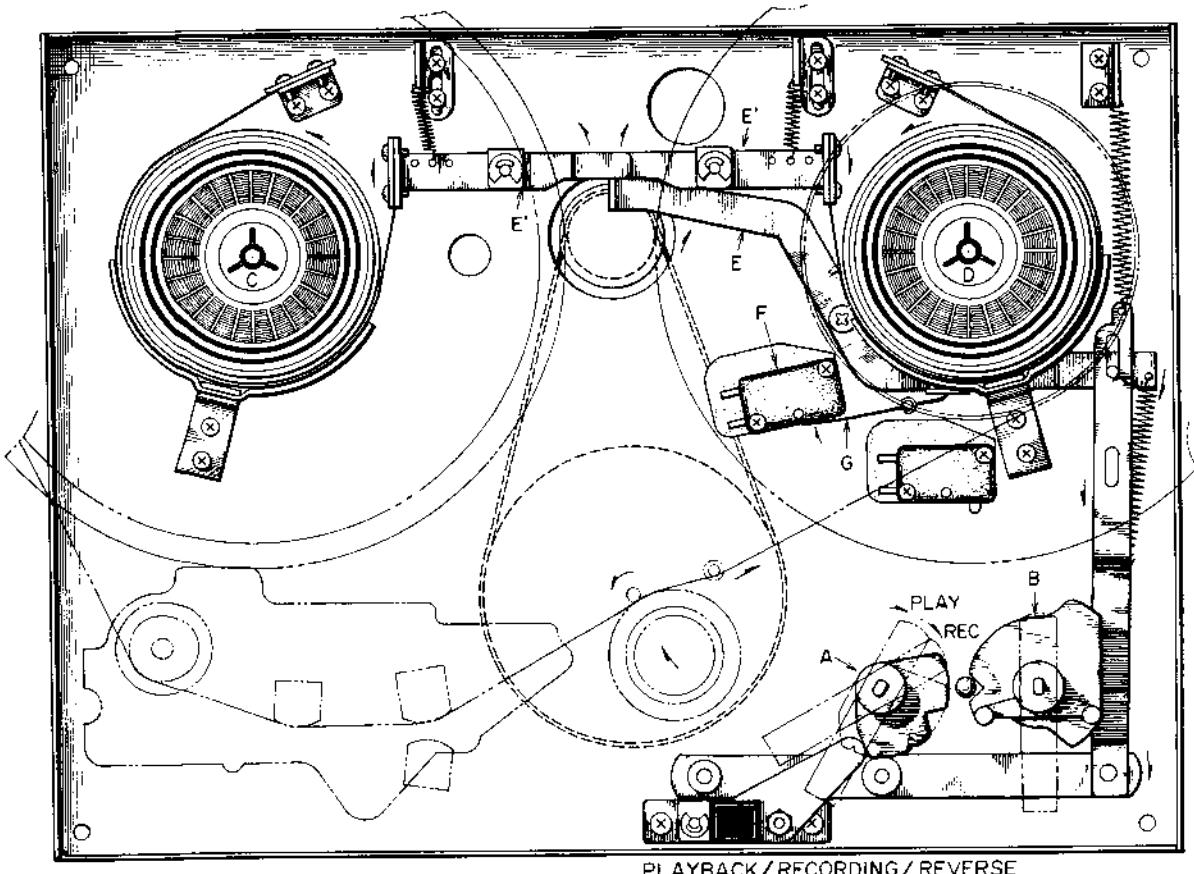

Fig. 5-5
When Fast Forward/Rewind Lever is set to Forward position, SW003 (block diagram) enters forward position. Brake Levers (E) (E) free brake. Lever Spring (G) turns "ON" Microswitch (F) and the TAKE-UP Torque Motor rotates. (See Fig. 5-5)
When Fast Forward/Rewind Knob is set to Rewind position, SW002 (block diagram) enters rewind position. Brake Levers (E) (E) free Brake. Lever Spring (G) turns "ON" Microswitch (F) and the SUPPLY Torque Motor rotates. (See Fig. 5-5)